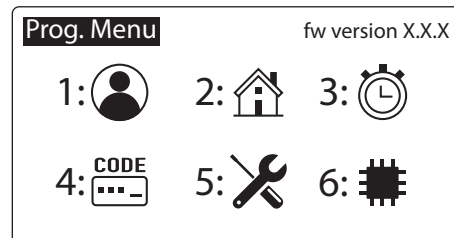

Fig. 8
From Programming menu (**Fig. 8**):
- from the main programming (**Fig. 8**), press **1** to enter the user menu
- from the main Programming menu (**Fig. 8**), press **1** to enter the user menu